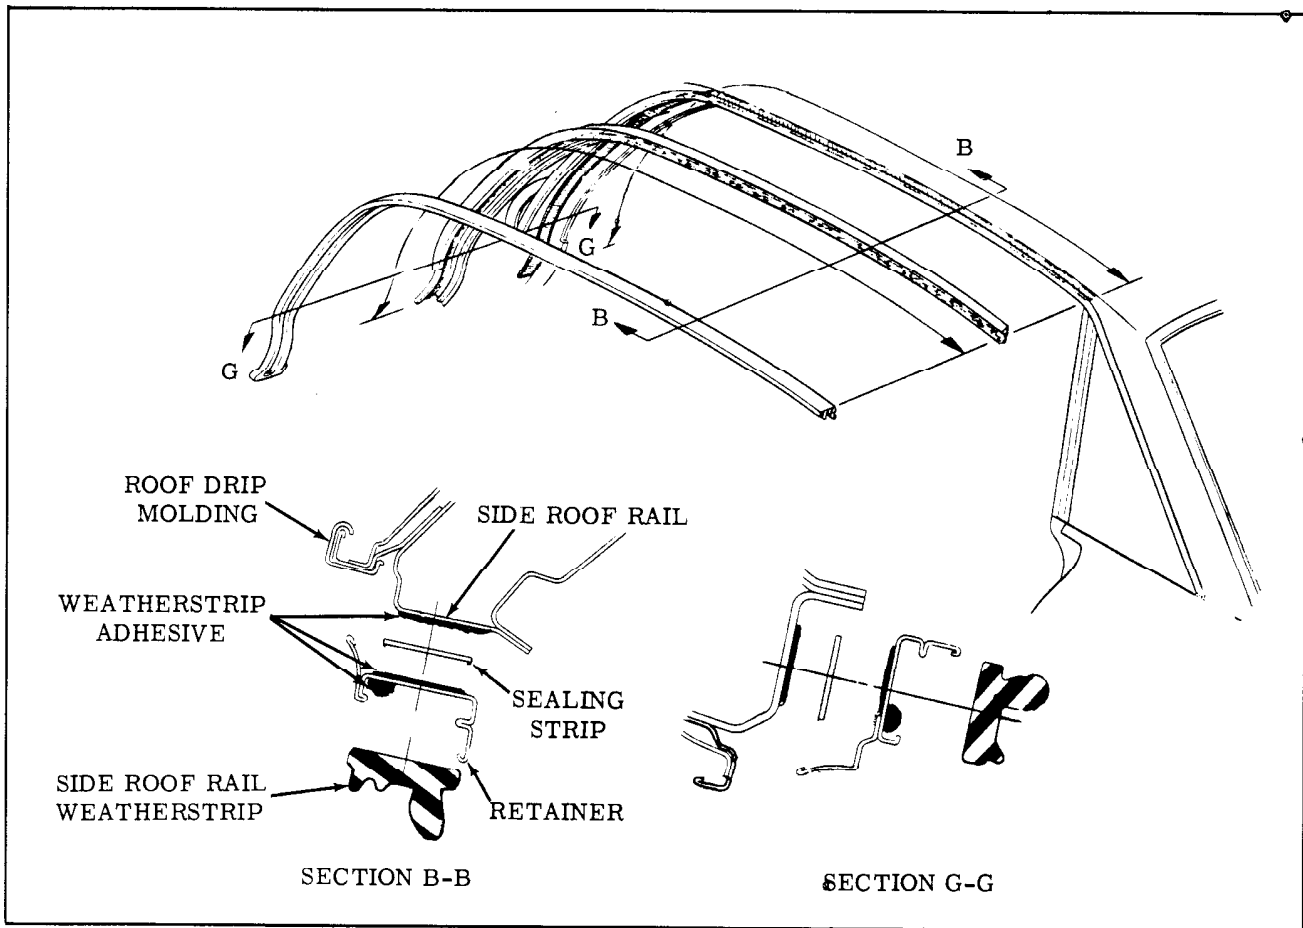

Fig. 17-7 3829 Style Side Roof Rail Weatherstrip Assembly
2. Apply a continuous bead (approximately 3/16" diameter) of weatherstrip adhesive along entire outboard surface of side roof rail weatherstrip retainer. (Section "B-B", Fig. 17-7)
3. Apply weatherstrip cement to rear end of side roof rail weatherstrip and cement weatherstrip to front end of stationary rear quarter window. (Section "G-G", Fig. 17-7)